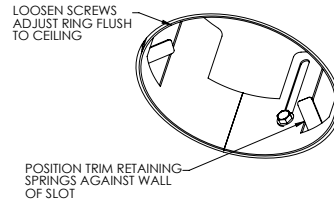

FIGURE 5
1. With finished ceiling or tile in place, check position of locking springs attached to frame. Rotate springs if necessary so that they are against wall of slot as shown in Figure 5.